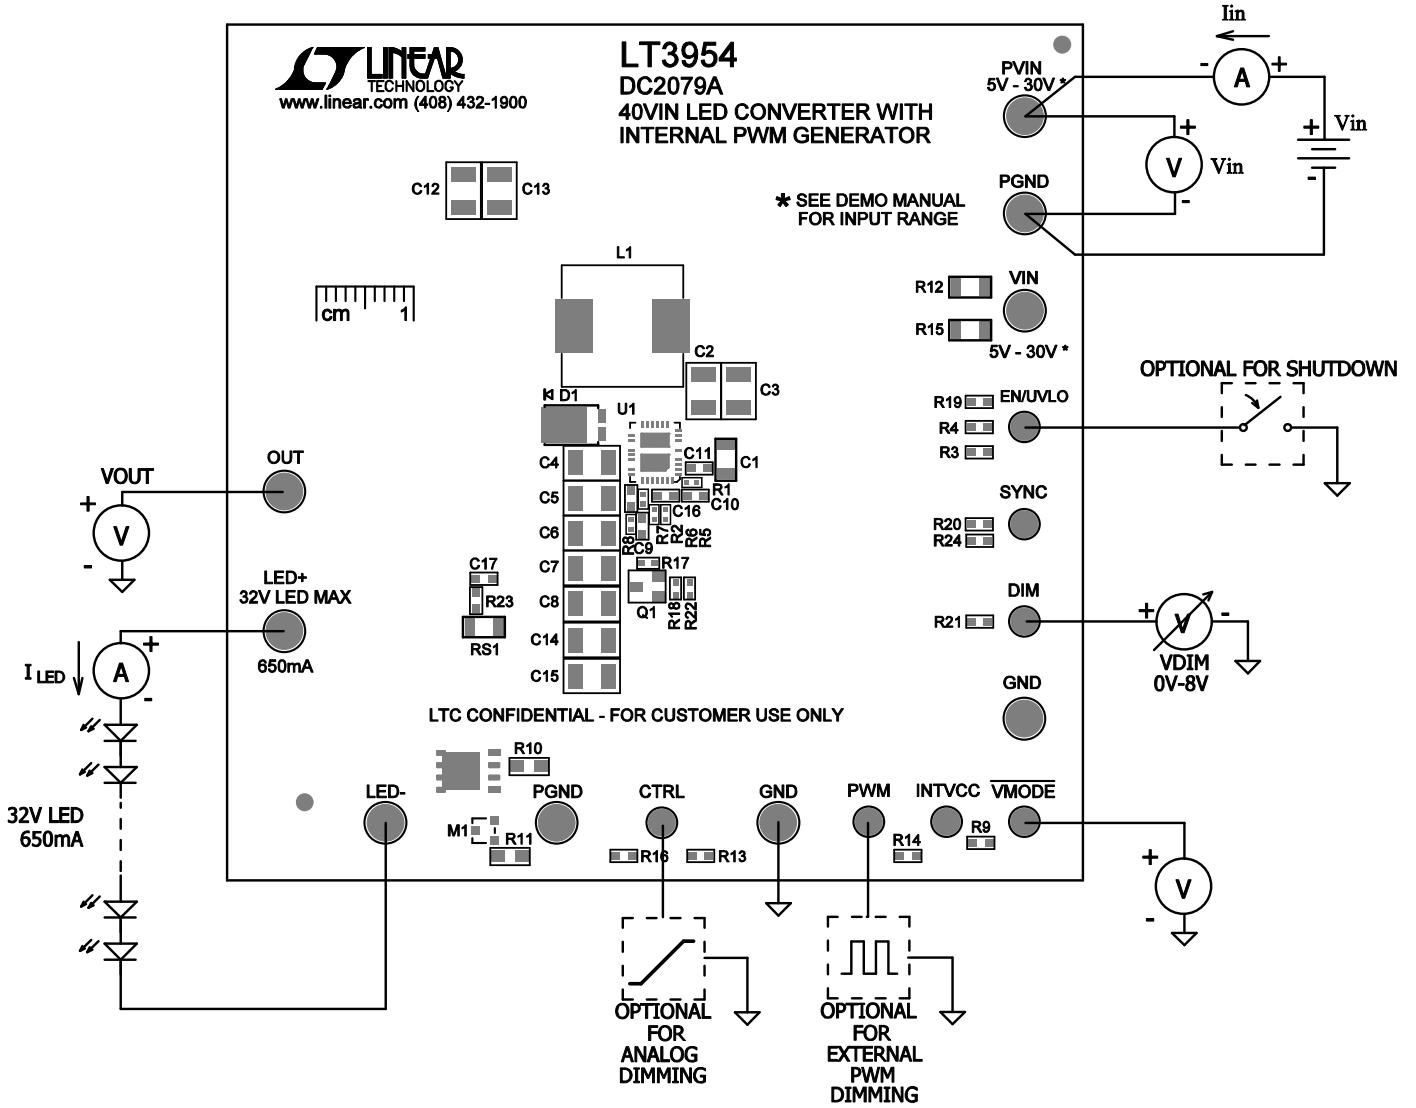

Figure 1. Test Procedure Setup Drawing for DC2079A
1. Connect a string of LEDs that will run with forward voltage less than or equal to 32V, but greater than the intended PV_{IN} , to the LED+ and LED- terminals on the PCB as shown in Figure 1.